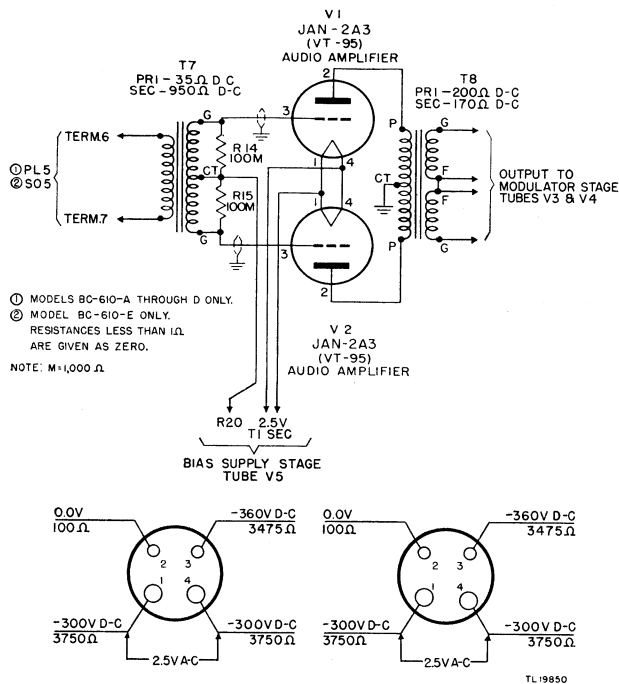

Figure 34. Radio Transmitter BC-610-(*), audio driver stage, schematic wiring diagram.
31. Audio Driver Stage (fig. 34)